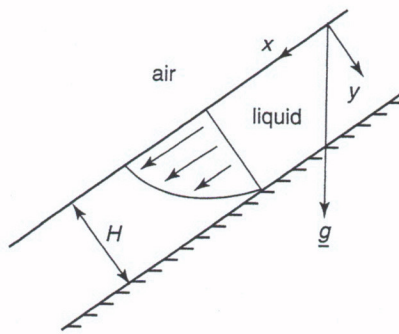

Figure 5.42
35. We solved the incline problem using a coordinate system that sits on the solid surface (Figure 5.12). Here, choose instead to solve the same problem with a coordinate system in which the coordinate position $x = 0$ is located at the free surface (i.e., the top of the film) (Figure 5.42). What is the gravity acceleration vector in this coordinate system? What are the flow-boundary conditions? Are there any advantages or disadvantages to this choice of coordinate system? Discuss your observations.